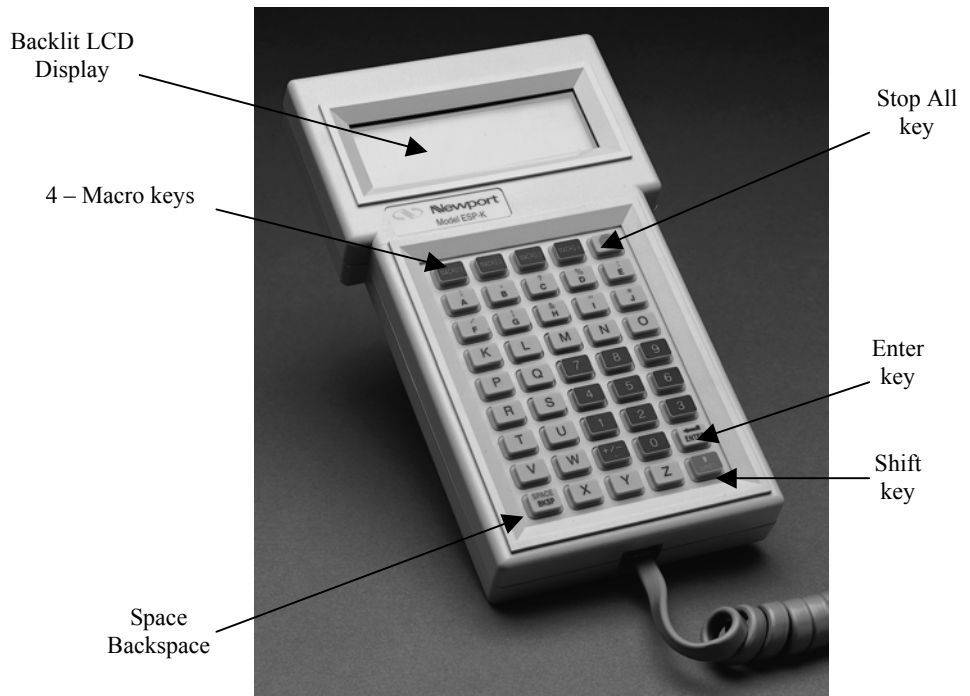

Figure 7.1: Alphanumeric Hand-held Keypad
An optional alphanumeric keypad (see **Figure 7.1** below) allows the user to access the full command set of the ESP300 without the use of a host computer. The keypad features a backlit LCD display that echoes each character typed on the keypad. Additionally, status messages are echoed to the display in certain cases (e.g., error codes).
7.1.1 Description of Keys (see Figure 7.1)